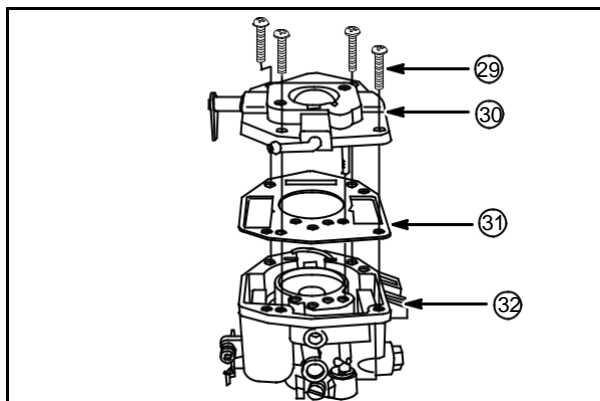

Fig. 94
Place new gasket (31) on lower carburetor body (32). Make sure holes in body line up with holes in gasket, **Fig. 94**.